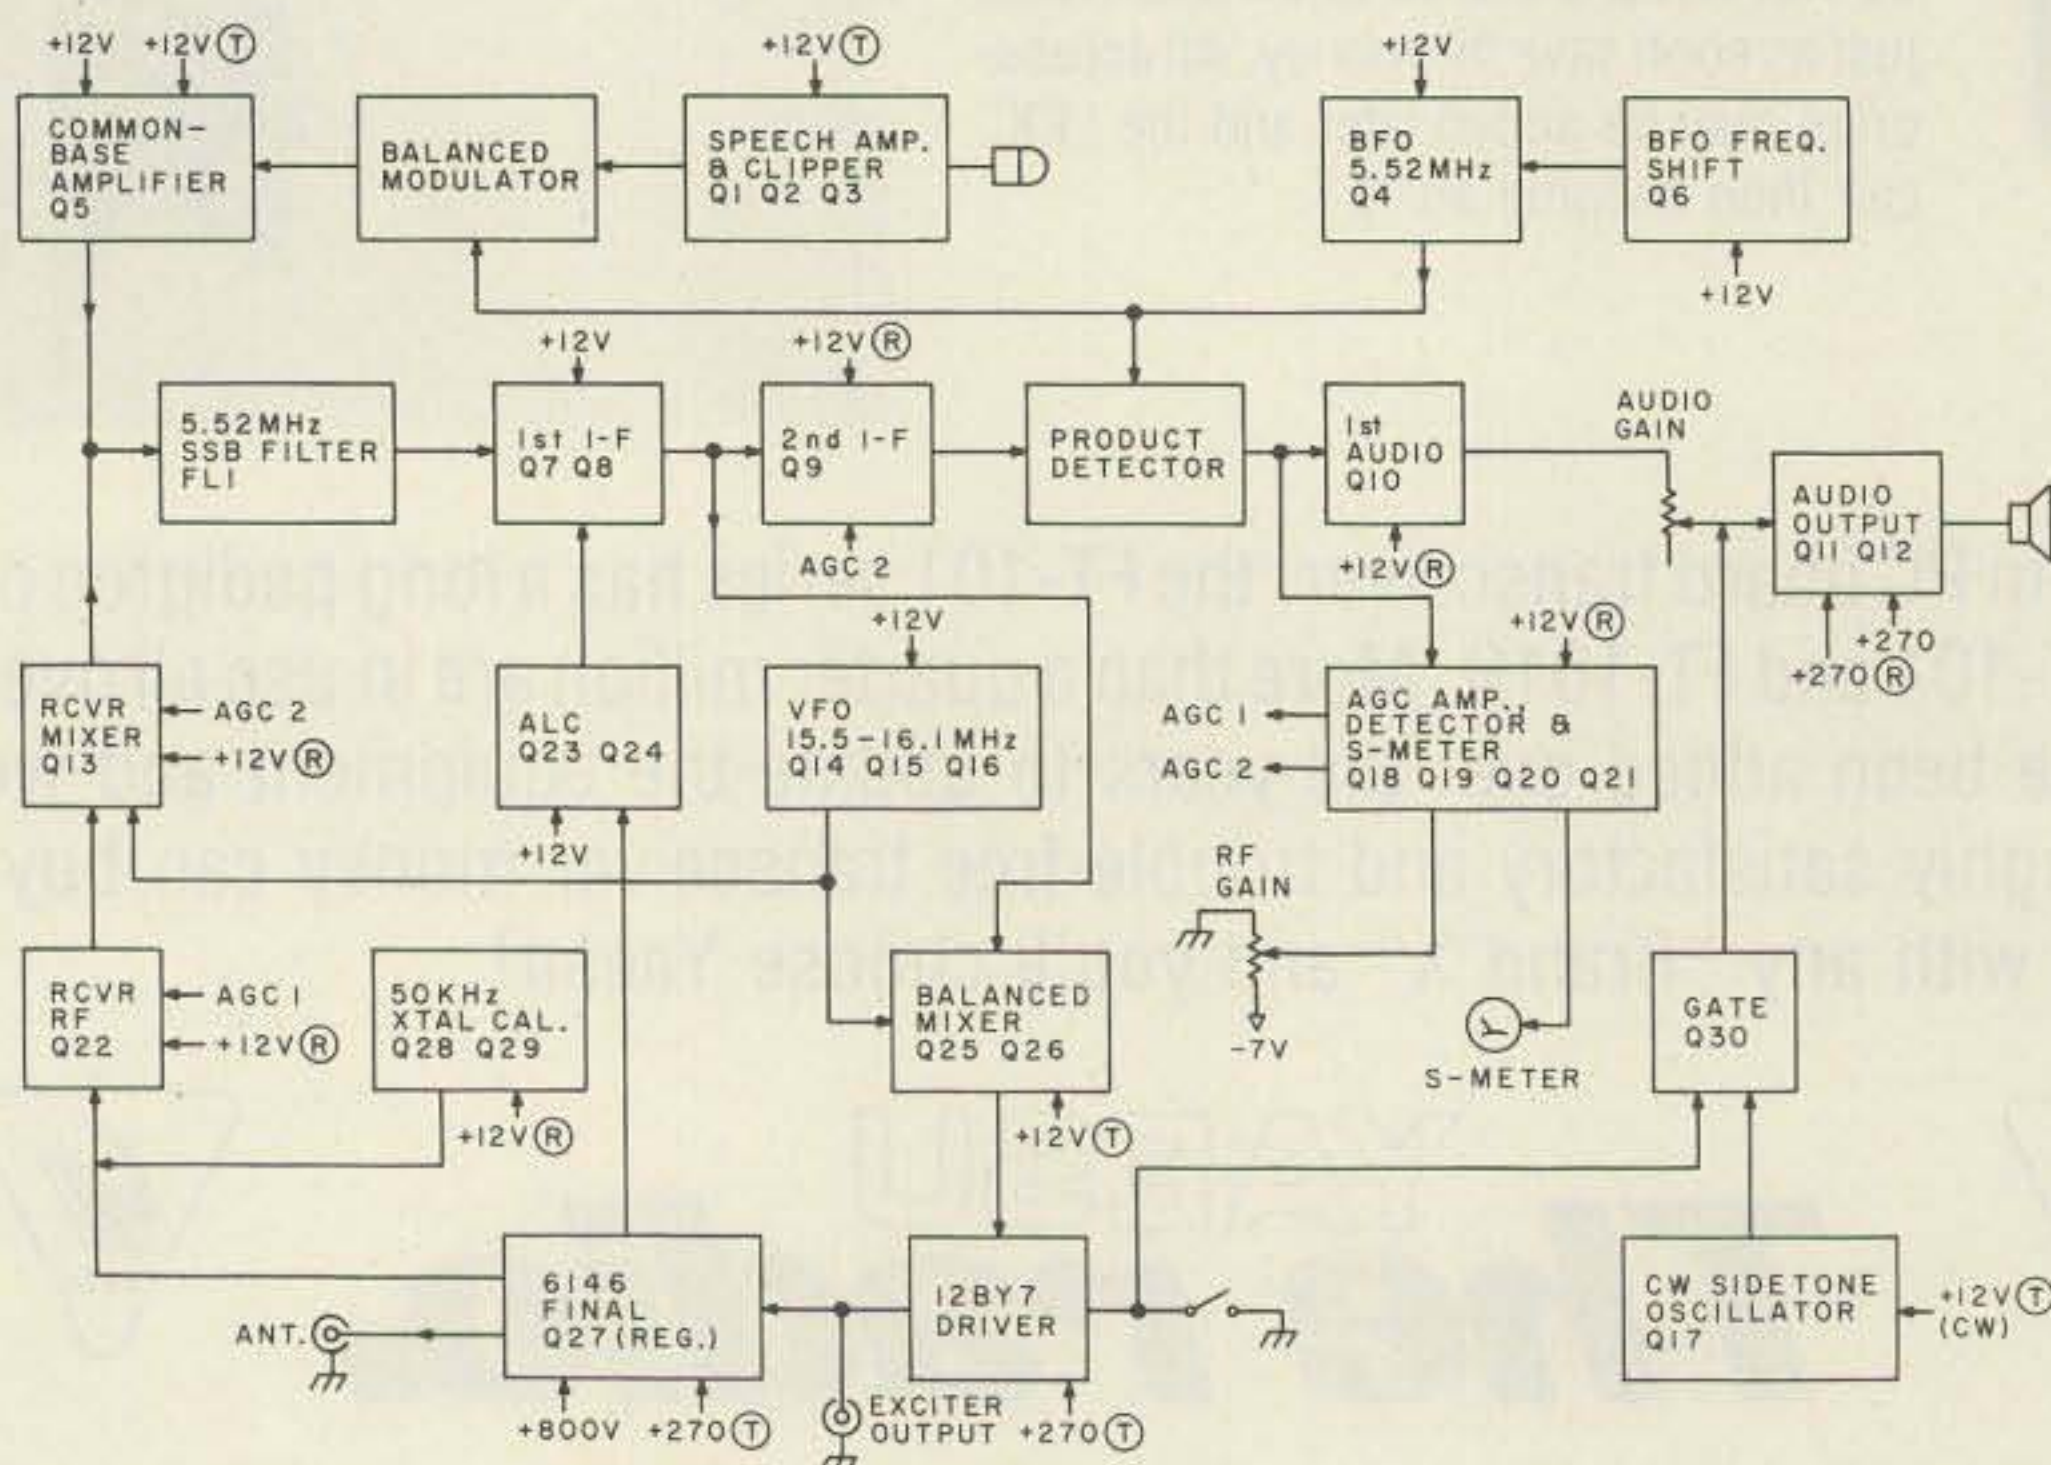

Fig. 1. Block diagram of the modified Swan. Supply voltages labeled "T" are present only on transmit. Voltages labeled "R" are present only on receive.
A block diagram of the modified transceiver is shown in Fig. 1. I wanted many features not present in the original Swan, such as agc, S-meter, ALC, and CW capability, which called for a bit more complexity. Most of the blocks in Fig. 1, however, correspond to some stage in the original transceiver, and, since I replaced most stages one at a time, the physical layout is much the same.
Included in Fig. 1 are the voltages supplied to each stage. Voltages suffixed with an (R) or (T) are only present in receive and transmit modes, respectively. Voltages without a suffix are present in both modes. Switching is accomplished with the original 3-pole double-throw 12-volt relay.